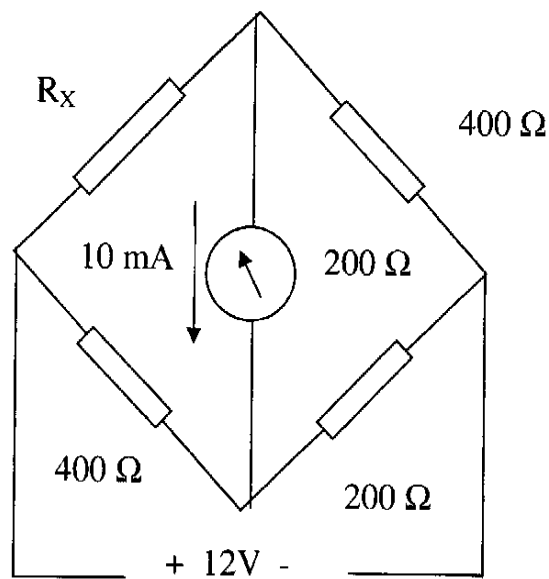

Fig Q1
1. Fig Q1 shows a measuring circuit in the form of a bridge network. The meter, of resistance  $200\ \Omega$ , reads  $10\ \text{mA}$  in the direction shown.
- (a) Calculate the value of the resistance  $R_X$ . (8)
- Calculate the new reading on the meter. (8)